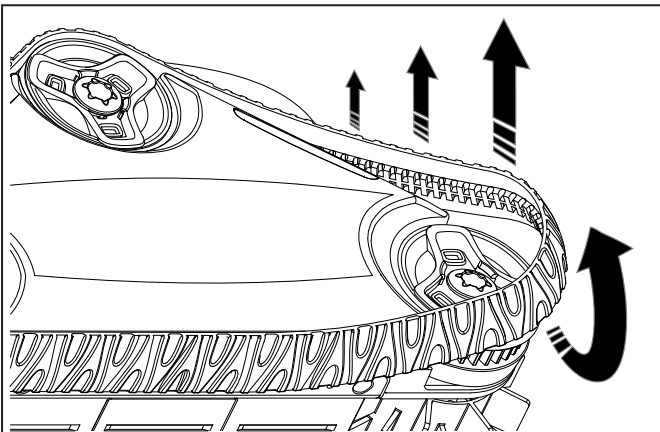

Figure 30. Pull the Track Over Wheels to Remove
2. Starting at one of the wheels, pull on the inside of the track to separate the tire lip from the wheel. See Figure 30. Remove the track from the cleaner.